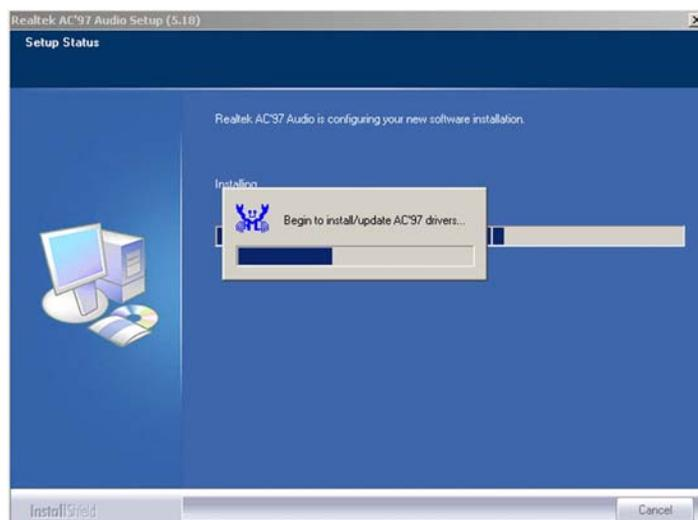

Figure 6-27: AC'97 Audio Driver Installation Begins
Step 8: After clicking the “YES” button in **Figure 6-26**, the installation of the driver begins (**Figure 6-27**).